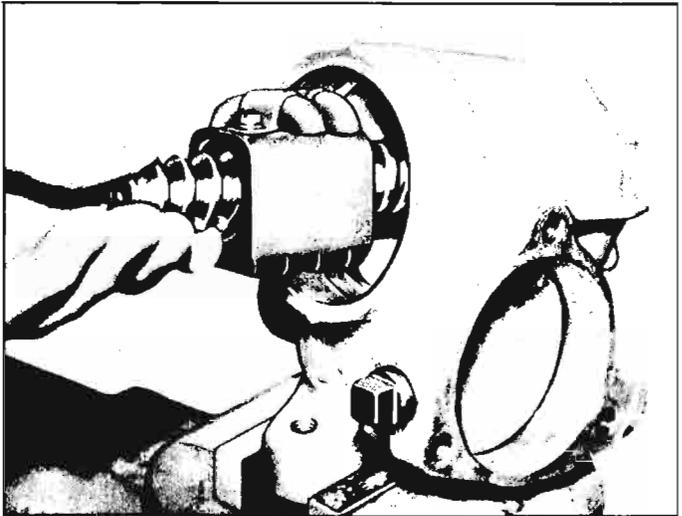

Fig. 4-13—Removing Wormshaft and Ball Nut
6. Draw wormshaft and nut assembly from housing (fig. 4-13). Remove upper ball bearing.